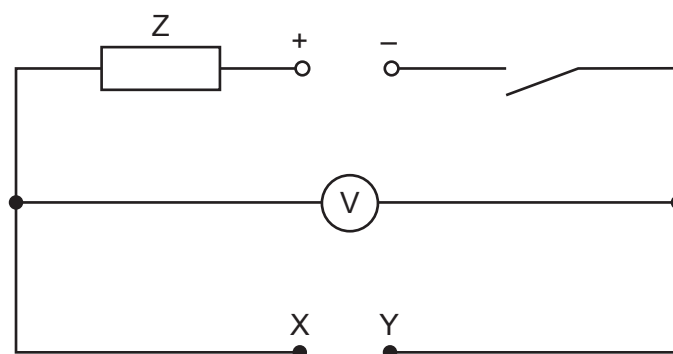

Fig. 2.1
- (vi) Sufficient connecting leads to set up the circuit shown in Fig. 2.1.
- 1 The supervisor must set up the circuit shown in Fig. 2.1 for the candidates in advance of the examination. Terminals X and Y must be labelled and have suitable terminals to connect to the resistors.
The circuit must be restored to its original state as shown in Fig. 2.1, with the switch open and the additional resistors placed by the side of the circuit.